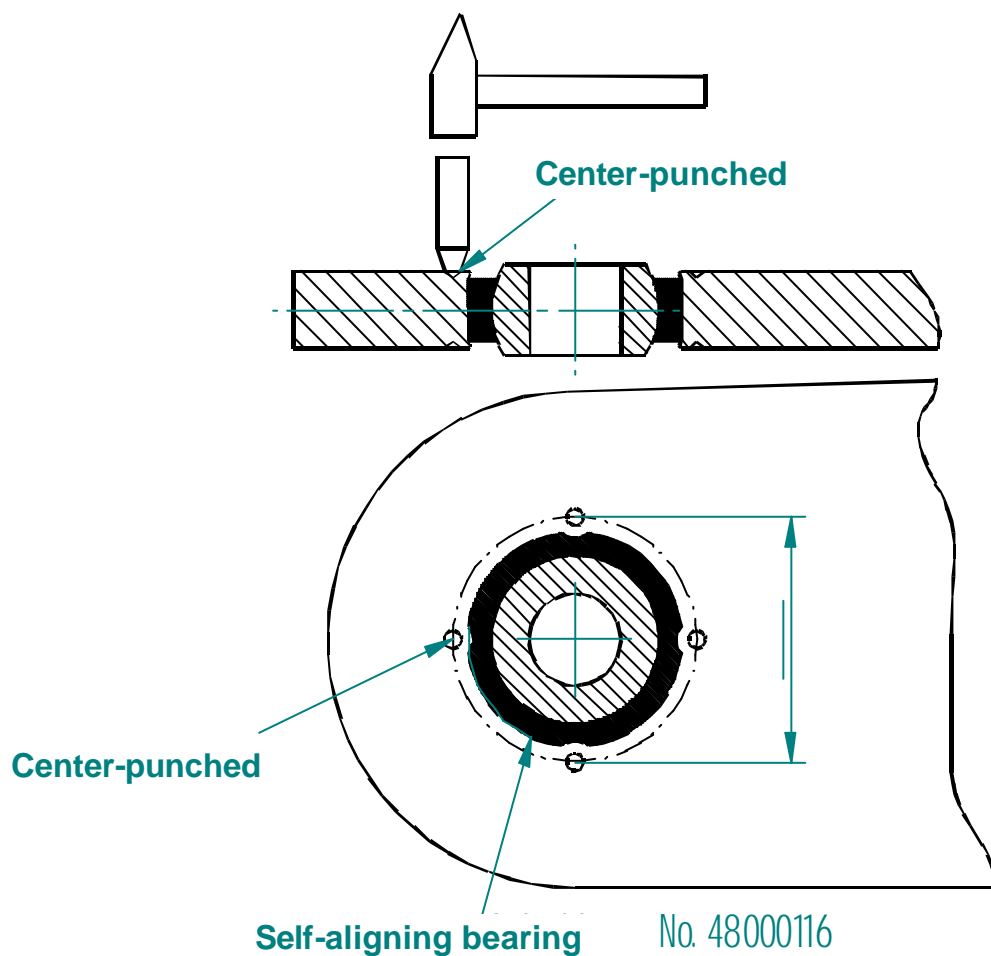

Fig. 3.9.1
2. Secure the bearing against displacement by four center-punch marks from each side as shown in figure 3.9.1.